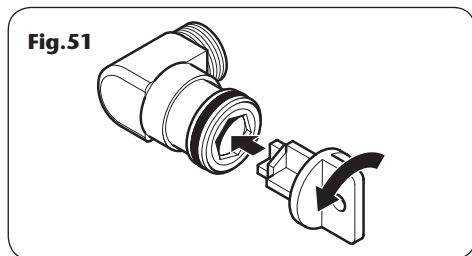

Fig.51
- e. Insert the plastic tool provided into the inner sleeve located inside the elbow and twist anti-clockwise (**fig.51**). Take care not to damage the check valve.